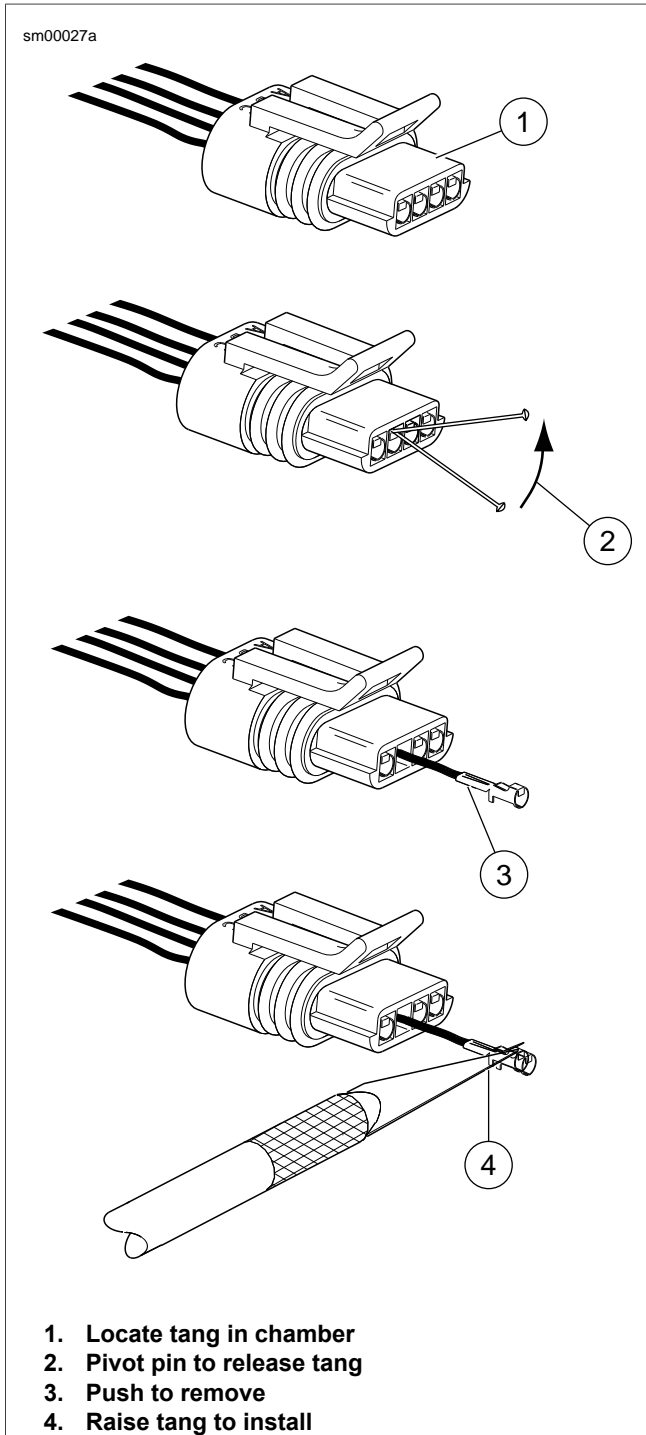
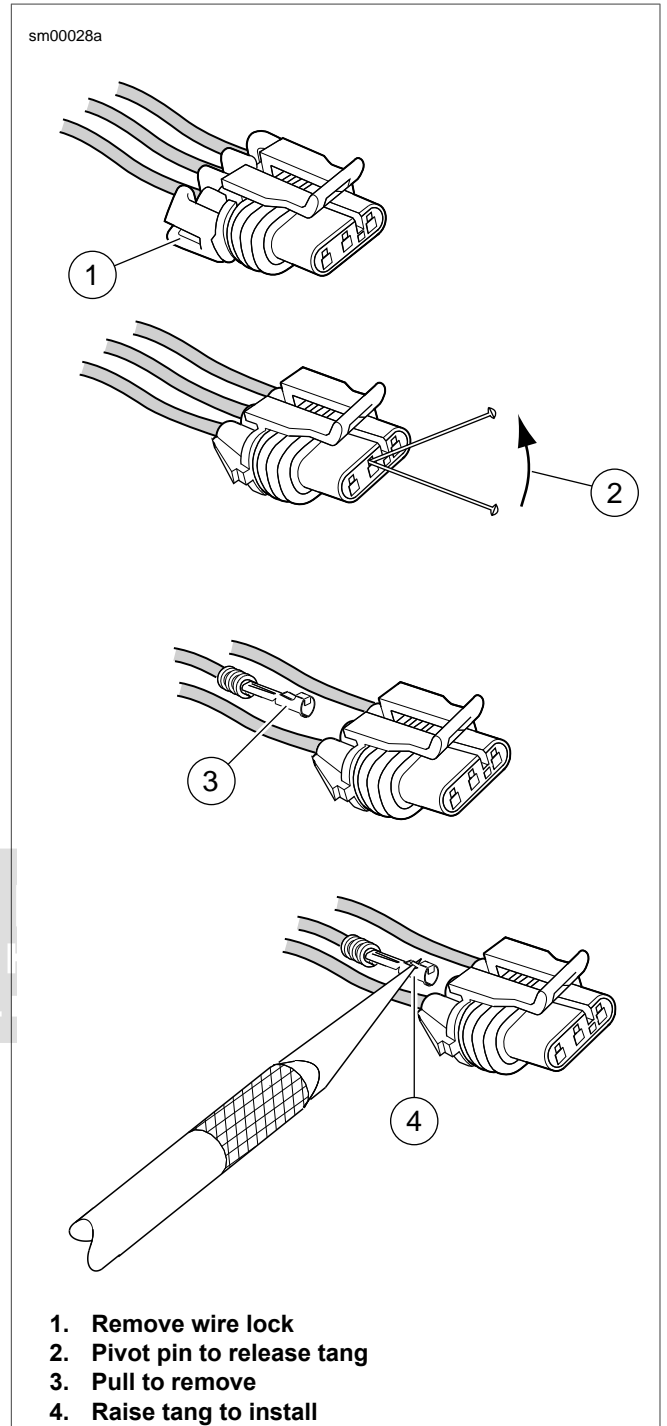

Figure A-14. Delphi 150 Metri-Pack Sealed Connector:
Figure A-15. Delphi 150 Metri-Pack Sealed Connector:
1. See Figure A-14 for pull-to-seat connector or Figure A-15 for push to seat connector. Remove wire lock (1) from wire end of socket housing on push-to-seat type connectors.
1. See Figure A-14 for pull-to-seat connector or Figure A-15 for push to seat connector. Carefully bend tang on each side of terminal outward away from terminal body. Use the thin flat blade from a hobby knife.
*For push-to-seat: See Figure A-15. Seat wires in separate channels of wire lock and then push channels **inside** chambers at wire end of socket housing. Fully installed, slot on each side of wire lock engages ear on socket housing.*